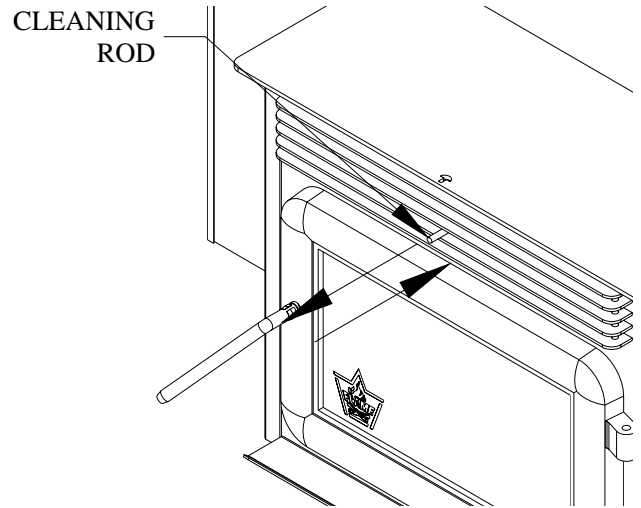

Figure 40
- With the door closed, clean heat exchanger tubes by sliding the cleaning rod back and forth. (see Figure 40).
- a. **Heat Exchange Tubes** – Your FP-35 stove is designed with a built-in heat exchanger tube cleaner. This should be used weekly to remove accumulated ash on the tubes. Slide the cleaning rod back and forth two or three times from front to back (refer to figure 40). When finished, push the cleaning rod back in, behind the louvers.